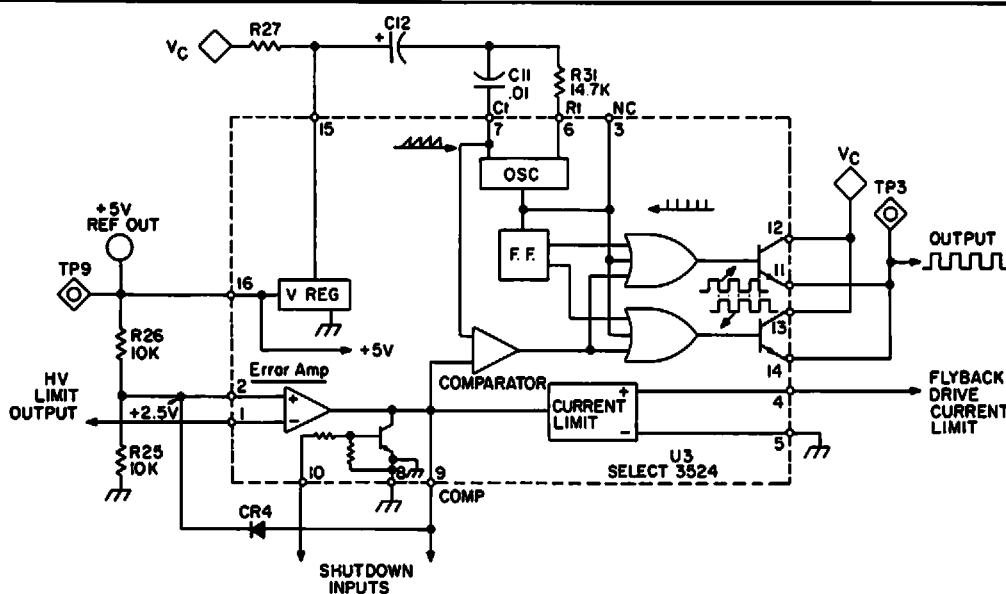

Figure 2-46
2.3.11 Pulse Width Modulator (Figure 2-46)